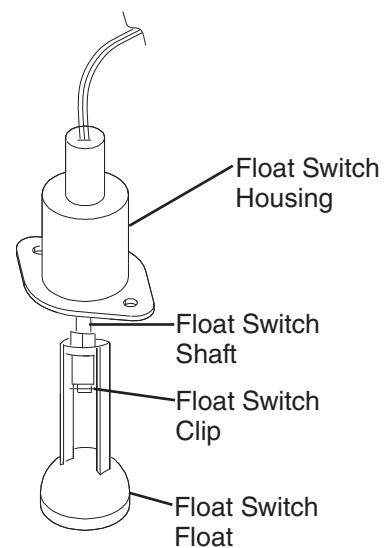

Fig. 6
- 5) Remove the retainer clip from FS shaft, then remove the float. Be careful not to damage or lose the retaining clip when removing it. See Fig. 6.